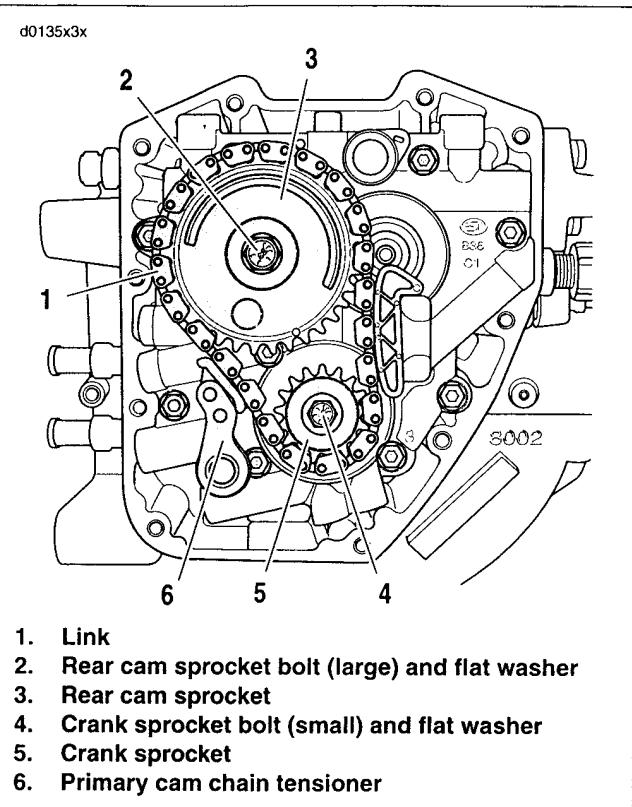

Figure 3-73. Cam Support Plate Assembly
12. See Figure 3-73. Apply a light amount of clean H-D 20W50 oil to splines on rear cam. Install the primary cam chain and sprocket assembly.
- Place the rear cam sprocket (3) in the cam chain. Hold the sprocket allowing the chain to hang loose. Rotate the sprocket so that the punch mark on the sprocket root faces straight downward.